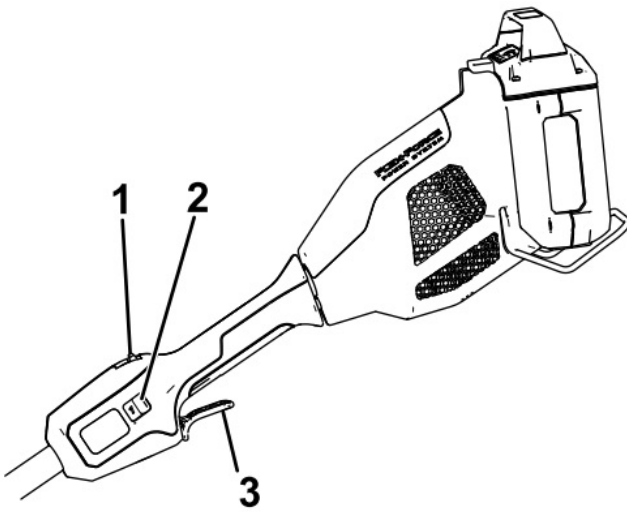

Figure 7
4. To start the attachment, press the lockout button, then squeeze the run trigger (**Figure 7**).